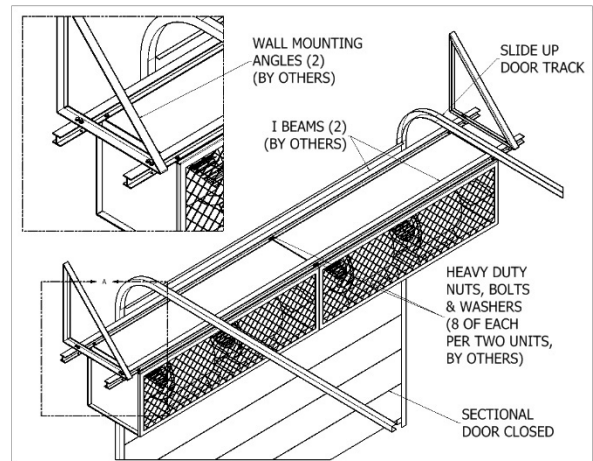

FIG. 7 (WMI/WMH SHOWN)
**Note:** Angle brackets, threaded rods and I Beams are provided by others. (FIGS. 7 & 8) All optional brackets are not available for WMI/WMH and BD Series.